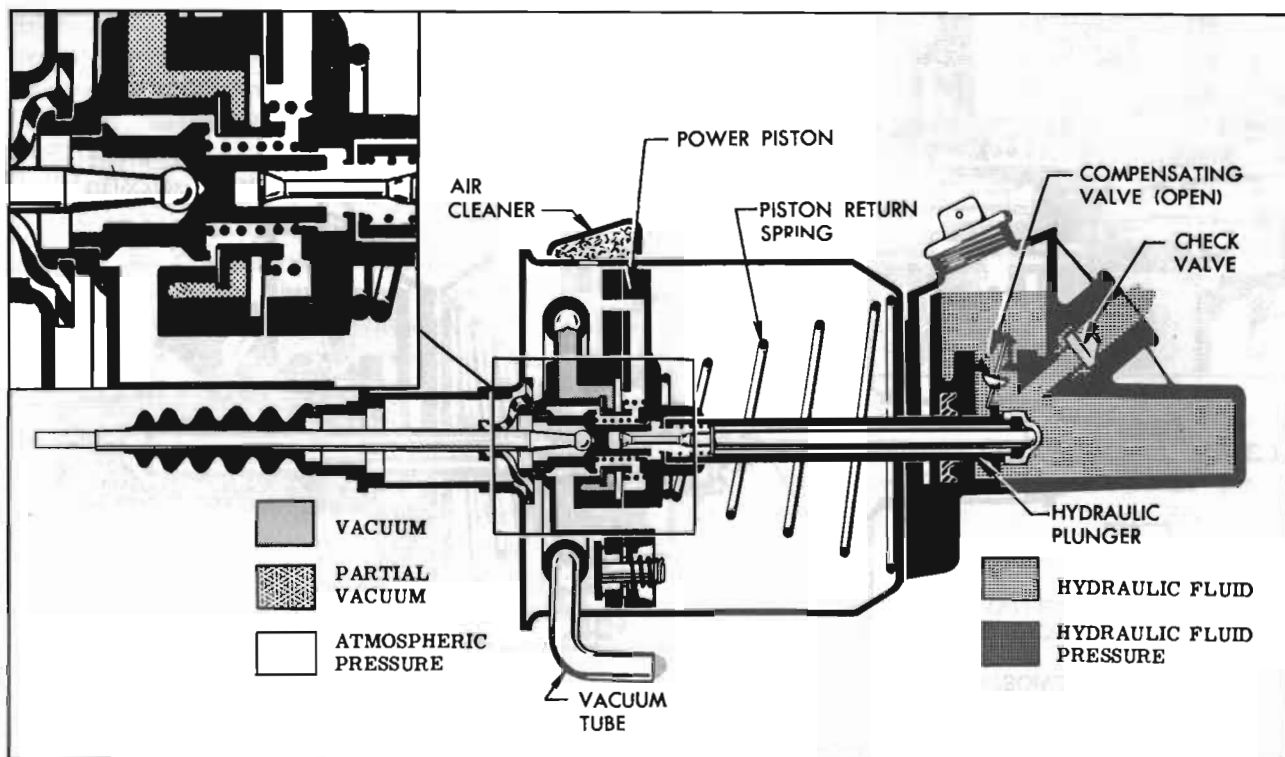

Figure 9-30—Released Position
(1) *Released Position.* See figure 9-30. When the engine is running and the brakes are released, vacuum from the engine intake manifold is transmitted through the vacuum check valve to the power brake vacuum tube and to the vacuum reservoir. Vacuum is transmitted into the power brake unit through an internal vacuum hose which is attached to the power piston at the rear side. Atmosphere is always present on the left side of the power piston
through the air cleaner. In the released position, as shown in figure 9-30, the driver's foot pressure is removed from the valve operating rod. This allows the valve operating rod and valve plunger to be held to the rear in the power piston by the valve return spring, thus opening the atmospheric port and closing the vacuum port. With atmosphere present on both sides of the power piston, the piston return spring (attached to the hydraulic plunger) holds the hydraulic plunger and power piston assembly in the released position.
(5) *Releasing.* Upon the release of the effort applied to the valve operating rod by the driver, the valve plunger returns to its released position with the vacuum port closed and the atmospheric port reopened to admit atmosphere to the forward side of the power piston to again balance the piston in atmosphere. See figure 9-30. The piston return spring then returns the power piston and hydraulic plunger to the released position. As the hydraulic plunger approaches the released end of the stroke, the washer on the hydraulic plunger again contacts the compensating valve stem and opens the valve port to allow the excessive fluid in the hydraulic cylinder to return to the fluid reservoir.